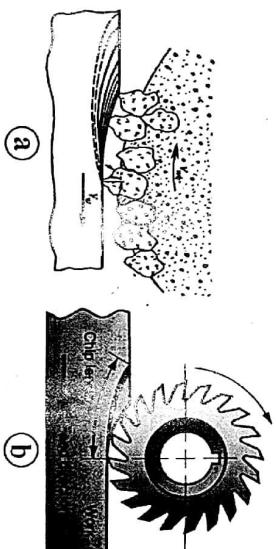

Fig. 1
- (b) Identify the process as shown schematically in the Fig. 1 (a) and (b) and also explain the major differences between them.